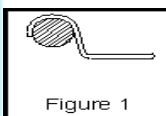

Figure 1
- CHECK GASKET** – to ensure cover gasket is properly fitted into cover groove (see Fig. 1 or 2).